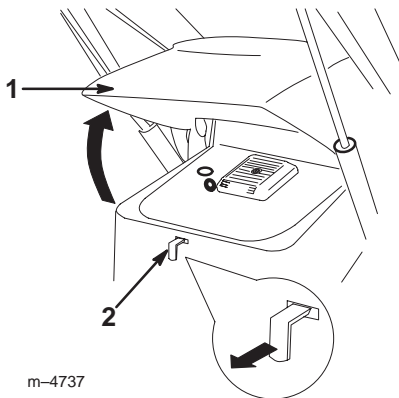

Figure 18
1. Pull out the hood latch in the front screen (Fig. 18).
2. Swing the hood up (Fig. 18).